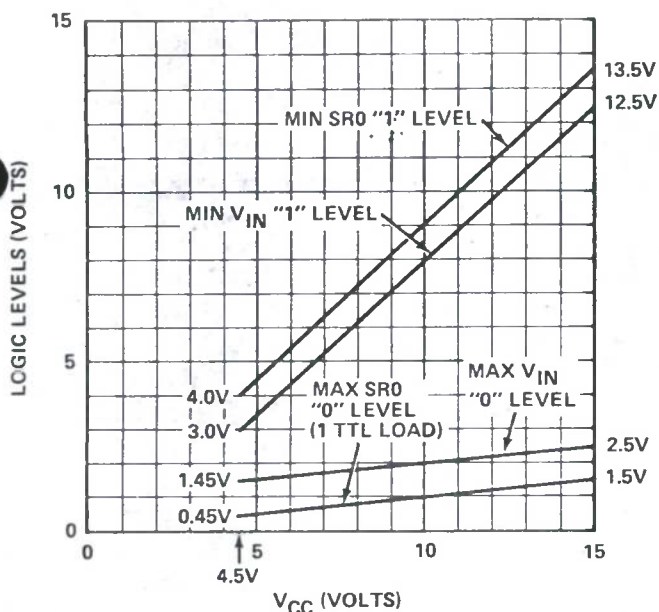

Figure 3. Logic Levels
4. Threshold levels shown are for TTL logic levels. For different V_{CC} levels typical in CMOS systems, see Figure 3.